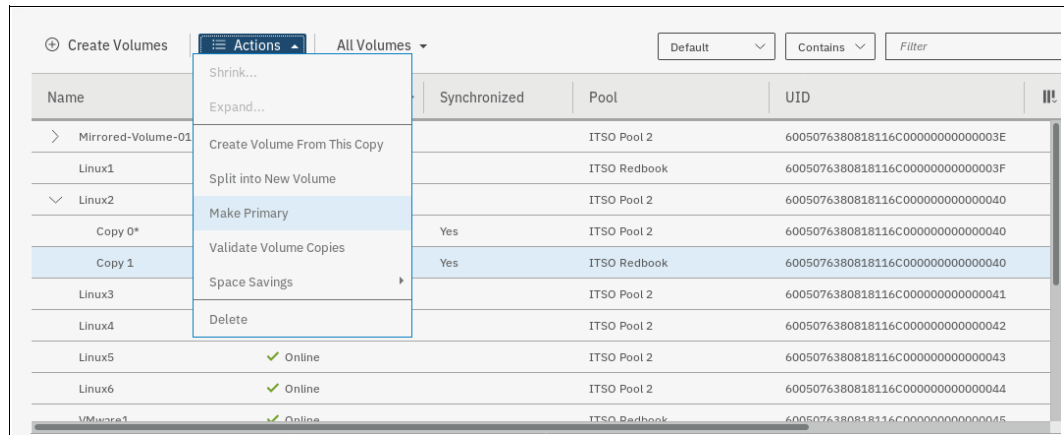

Figure 6-51 Making the new copy in a different storage pool as primary
4. Wait until the copies are synchronized. Then, change the role of the copies and make the new copy of the primary copy, as shown in Figure 6-51.